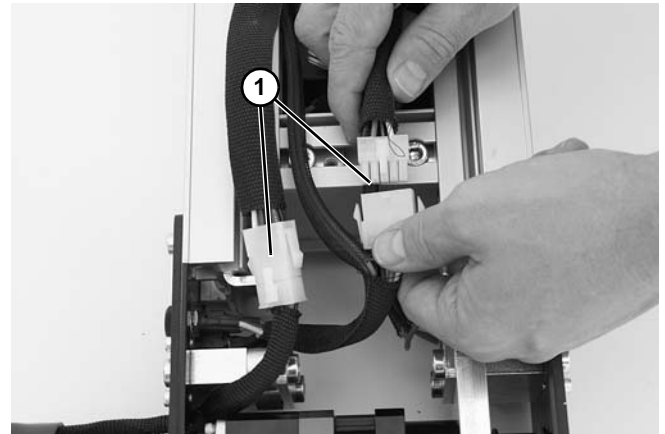

Figure 158
3. Disconnect two wiring harness connectors (Figure 158, item 1).